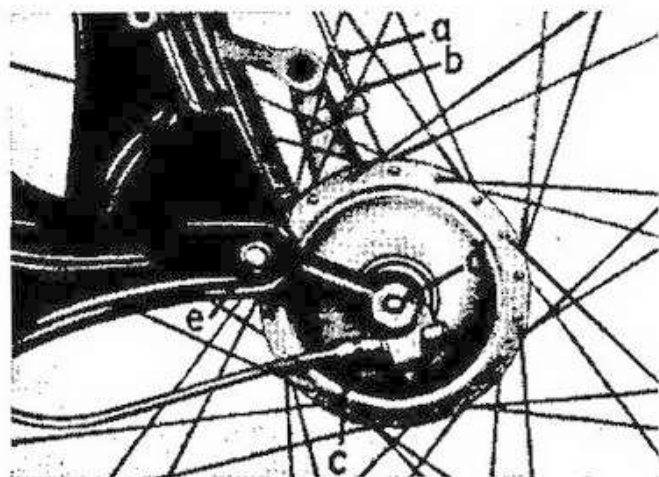

Fig. 70 Front wheel fitted VI / 57 / 810
5. Reverse the procedure when reassembling. See that the drive illustrated in fig. 70 is fitted squarely on the axle and that the driving elements fit into the axle grooves.